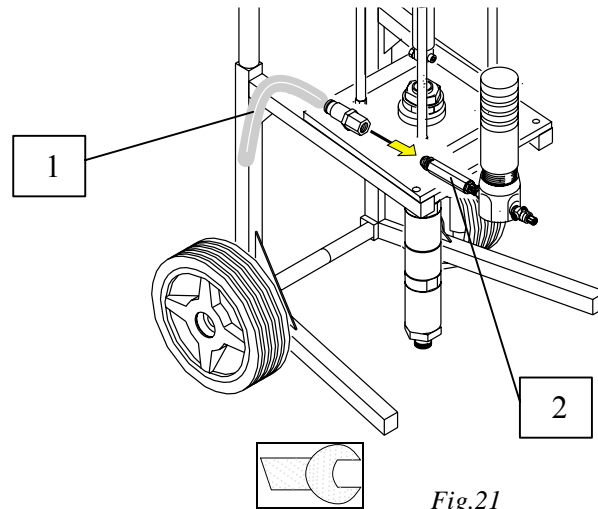

Fig.21
- 10 Connect the pipe 1 that brings the product delivered to the spray gun (fig. 21).